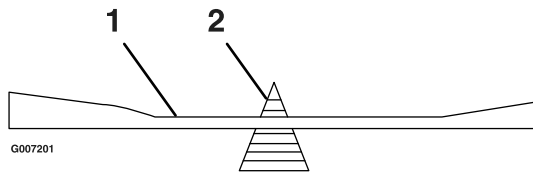

Figure 53
2. Check the balance of the blade by putting it on a blade balancer (Figure 53). If the blade stays in a horizontal position, the blade is balanced and can be used. If the blade is not balanced, file some
metal off the end of the sail area only (Figure 53). Repeat this procedure until the blade is balanced.